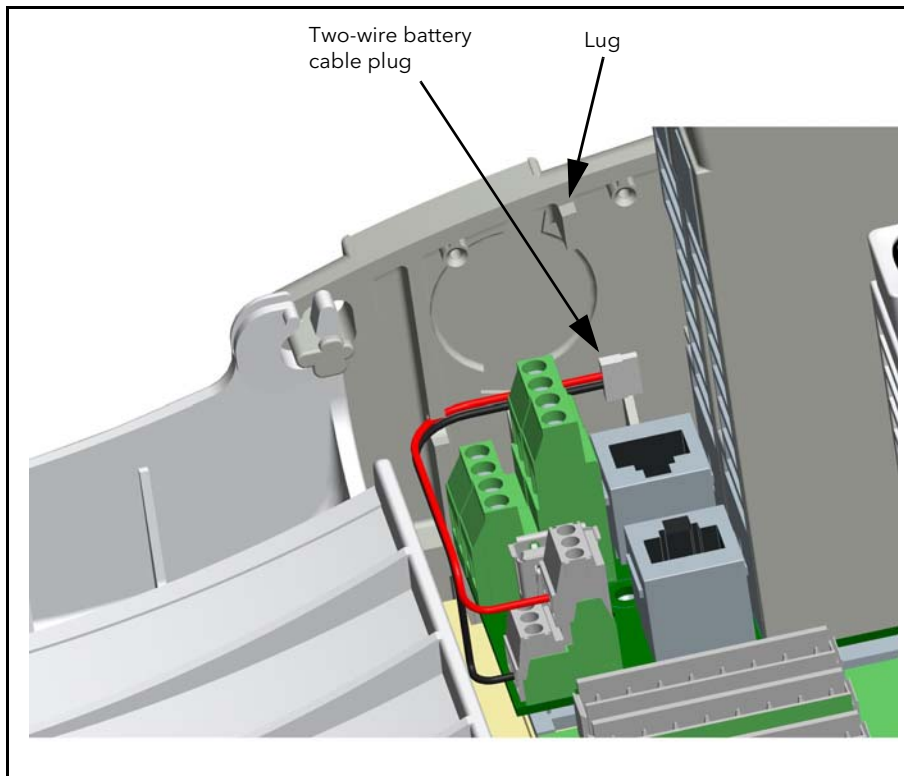

Figure 2 Battery board removed
- Carefully manoeuvre the battery board of from the plastic side panel. Unplug the two-wire cable from the board end (Figure 2).